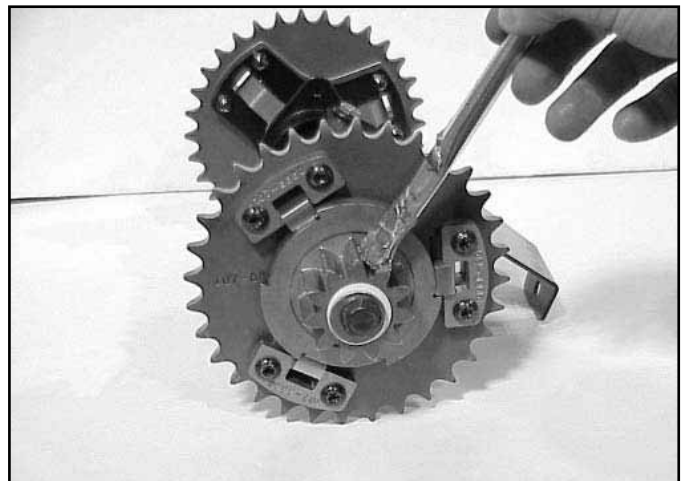

Fig 164
16. Before installing the wheel clutch assembly, lightly coat the 11-tooth gear of the wheel clutch with anti-seize (Fig. 164).